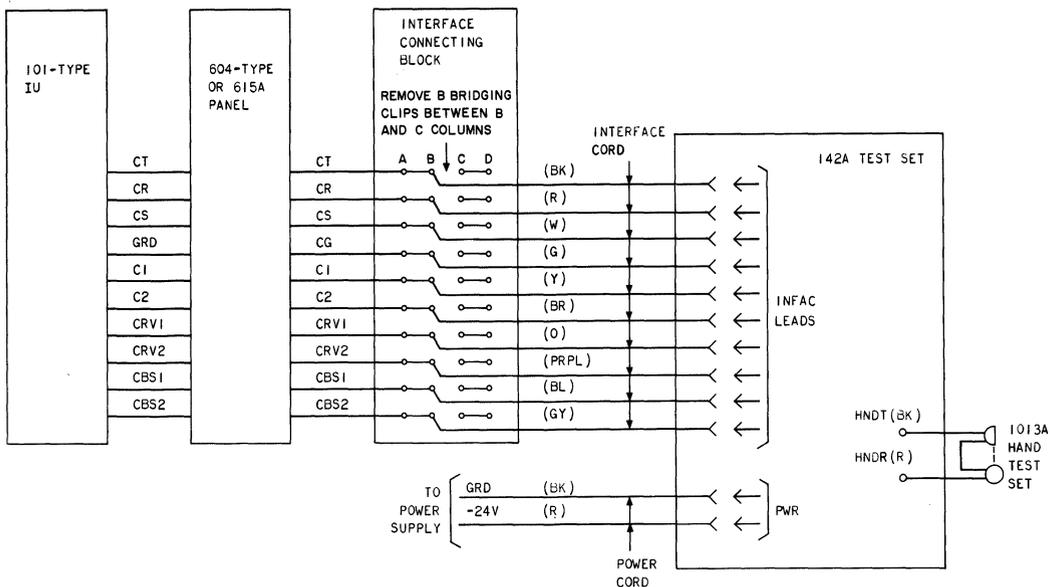

Fig. 19—Connections for Testing 101-Type IU With 142A Test Set
**B. Using 142A Test Set (Fig. 19)**